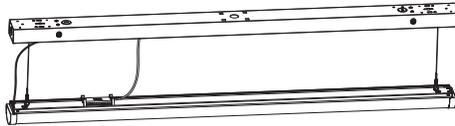

Figure 11
Step2. Assemble the DC sensor to the corresponding position (Figure 11).